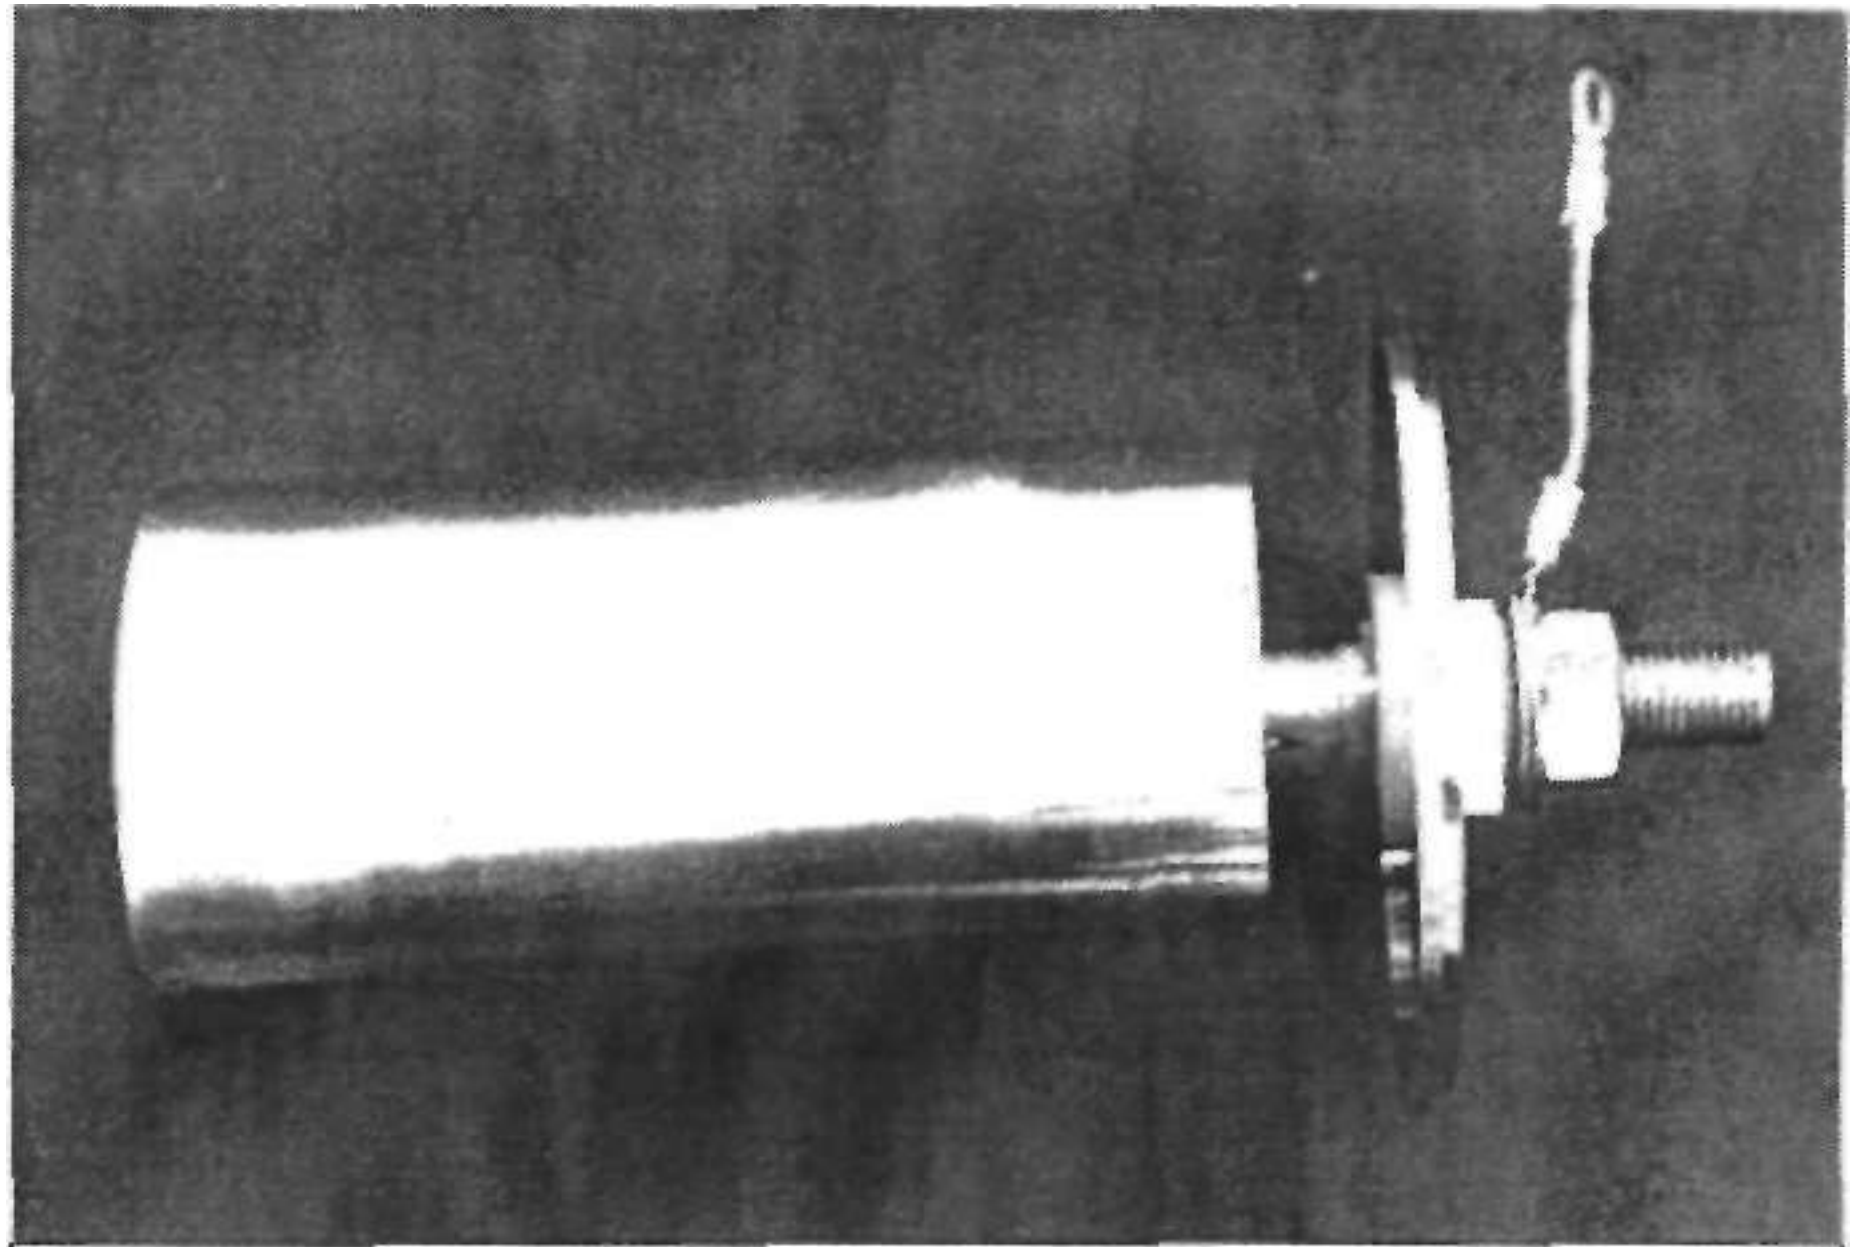

FIG 23. Cell - 5 cylinder. A view of the completed cylinder assembly
- E5f. Now assemble the inner cylinder assembly to the lower cap plate. With clean hands, place the inner cylinder assembly top down, bolt up, on your flat plate. If not already done, slip your 1 inch long spacer sleeve onto the bolt. Next apply Vaseline (petroleum jelly), liberally all over the bolt shaft and inner washer. Place the inner washer onto the bolt so that the smaller diameter step is facing you and liberally cover this step with more Vaseline. Now place the lower cap onto the bolt the right way round, so that the 1 inch step of the inner insulator fits into the 1 inch hole of the lower cap. Again liberally apply Vaseline on the outer insulator and slip this over the bolt. Next, put your washer, electrical lug and nut on the bolt (*see FIG 23.*). Tighten the nut more than hand tight but not